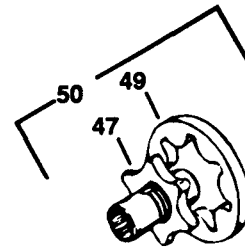

Figure 4
15 Install outer gerotor ring (49) into adapter assembly (52). Lubricate ring to hold in place. See Figure 4.
16 Install inner gerotor and coupler assembly (47) onto shaft (8) and backplate (33). Lubricate inner gerotor. See Figure 4.